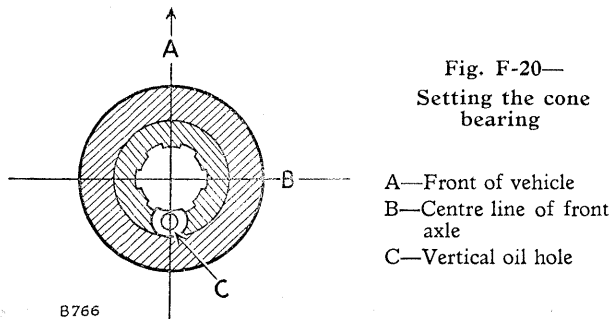

Fig. F-20—
10. Insert the cone bearing after smearing with oil, with the vertical oil hole in the bearing towards the rear of the vehicle (Fig. F-20).